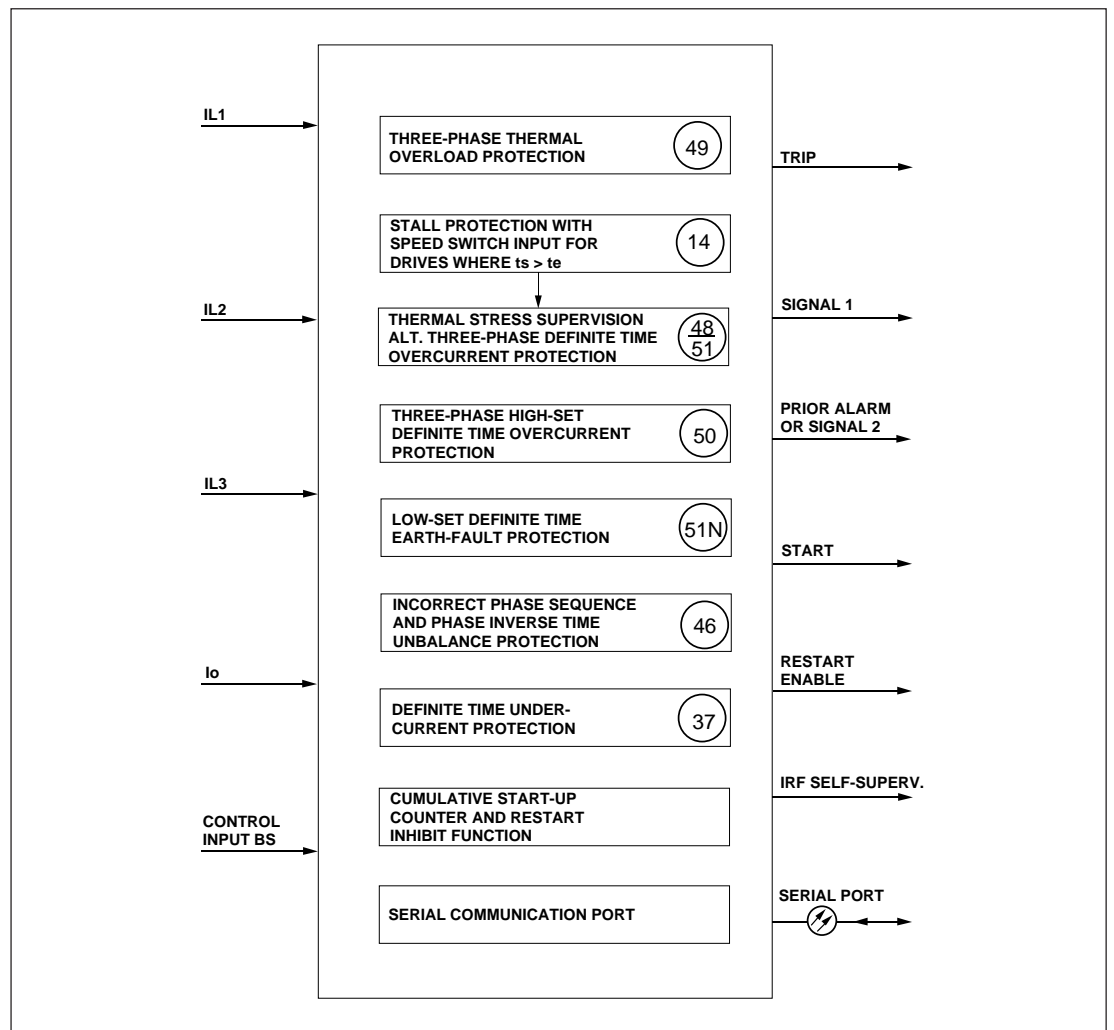

Fig. 1. Protective functions of the motor protection relay type SPAM 150 C. The encircled numbers refer to the ANSI-numbering of protective functions.
E) In two minutes after the internal self-supervision system has detected a permanent relay fault the red IRF indicator is lit and the output relay of the self-supervision system operates. Further, in most fault situations an autodiagnostic fault code is shown in the display. The fault code is composed of a red figure 1 and a green code number, which indicates the fault type. The fault code can not be reset as long as the fault persists. When a fault code appears on the display, the code number should be recorded on a piece of paper and given to the authorized repair shop, when overhaul is ordered.